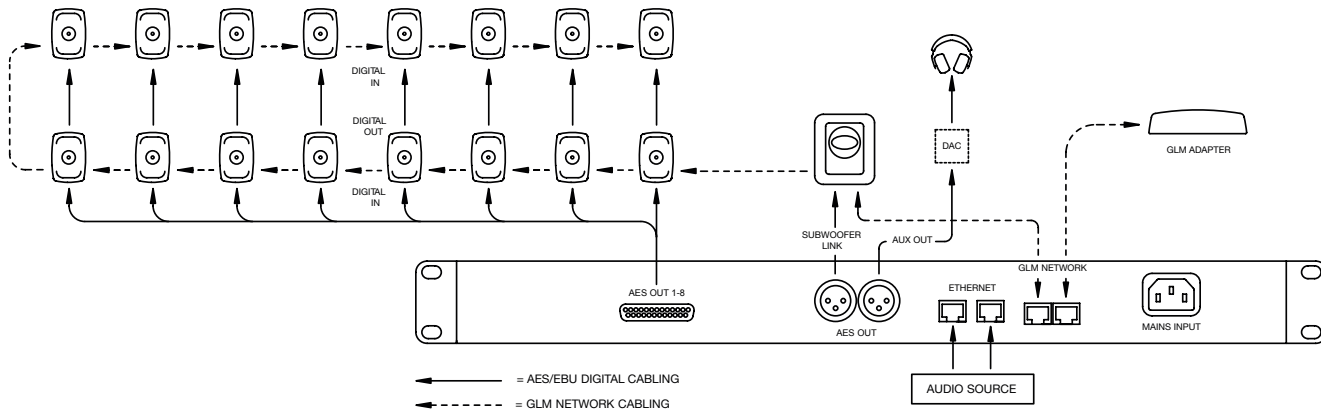

Figure 2. An example monitoring system connected with the 9402A
- Connect CAT 5 (RJ45) GLM network cables between the 9402A, every monitor and subwoofer. Finally, connect to the GLM Adapter device (see Figure 2). The connection order of the other devices is not important. Connect the GLM Adapter device to your computer via USB.